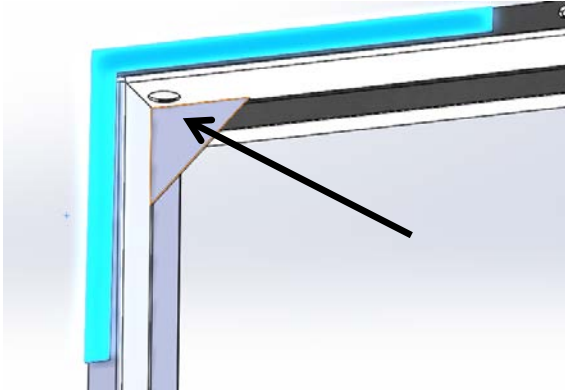

Figure 4 Front side, weld metal gusset plate in place.
Step 2: Weld two metal gusset plates, 0034831, in place in the upper corners of the door frame, behind where the door will mount. Smooth all welds and spray welds with corrosion inhibitor paint. Figure 4 is included for reference.